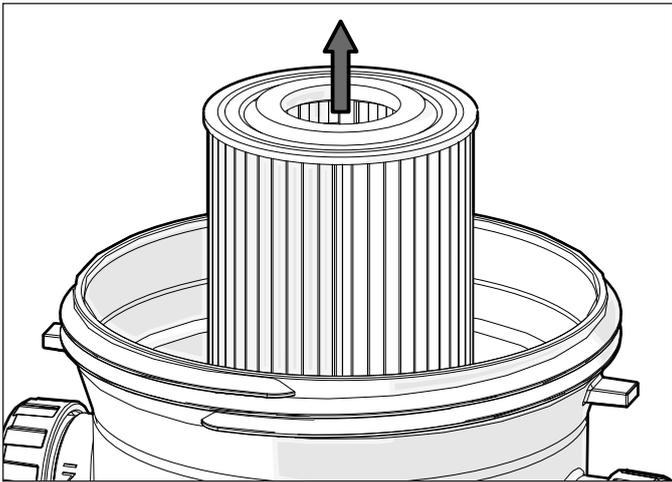

Figure 16. Removing Cartridge
- Once lid is free of the body, lift lid and locking ring together and place in a clean location. You can now remove the filter cartridge (Figure 16).